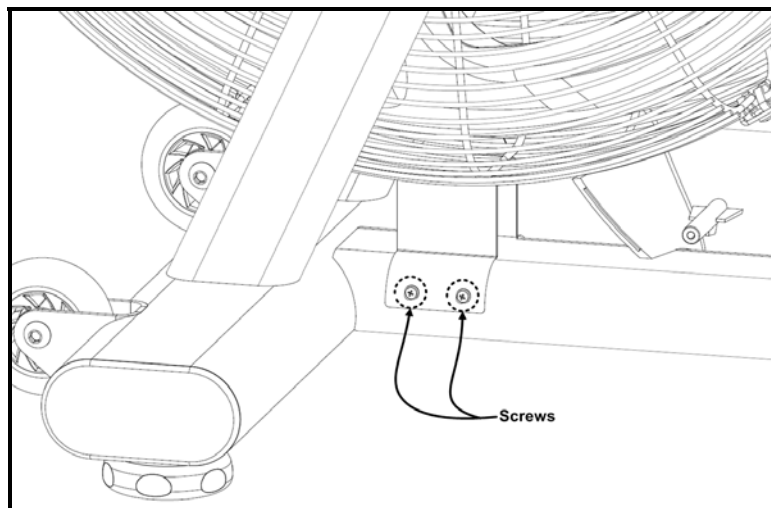

Fig. 15
17. Remove the securing phillips head screws (Fig. 15) from the left & right lower fan cage brackets.